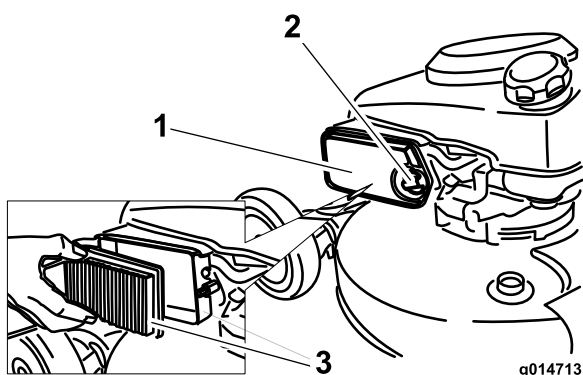

Figure 15
2. Unscrew and open the air cleaner cover (Figure 15).